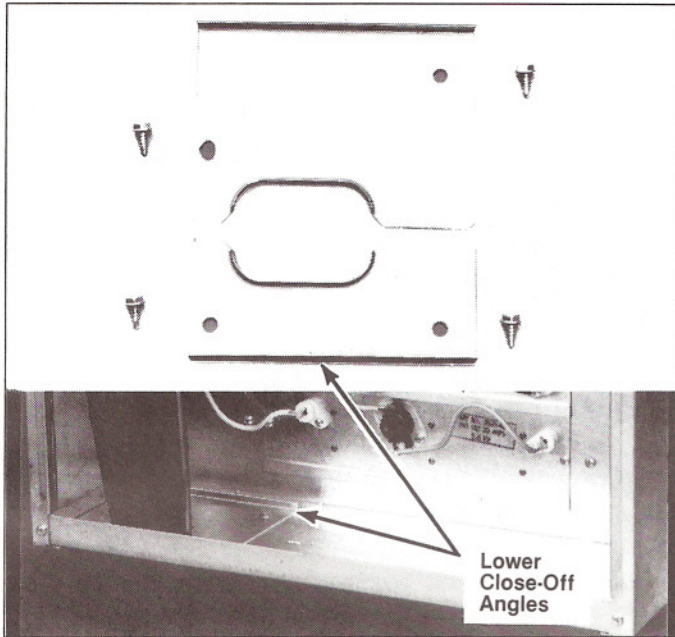

Figure 10. Close-Off Plates
Note: The lower angles have pre-punched holes for location. (See Figure 10)
- f) Install the front Close-Off Plates at the lower refrigerant line openings. Secure with the sheet metal screws provided. Mark and drill holes for the lower plate. (See Figure 10)